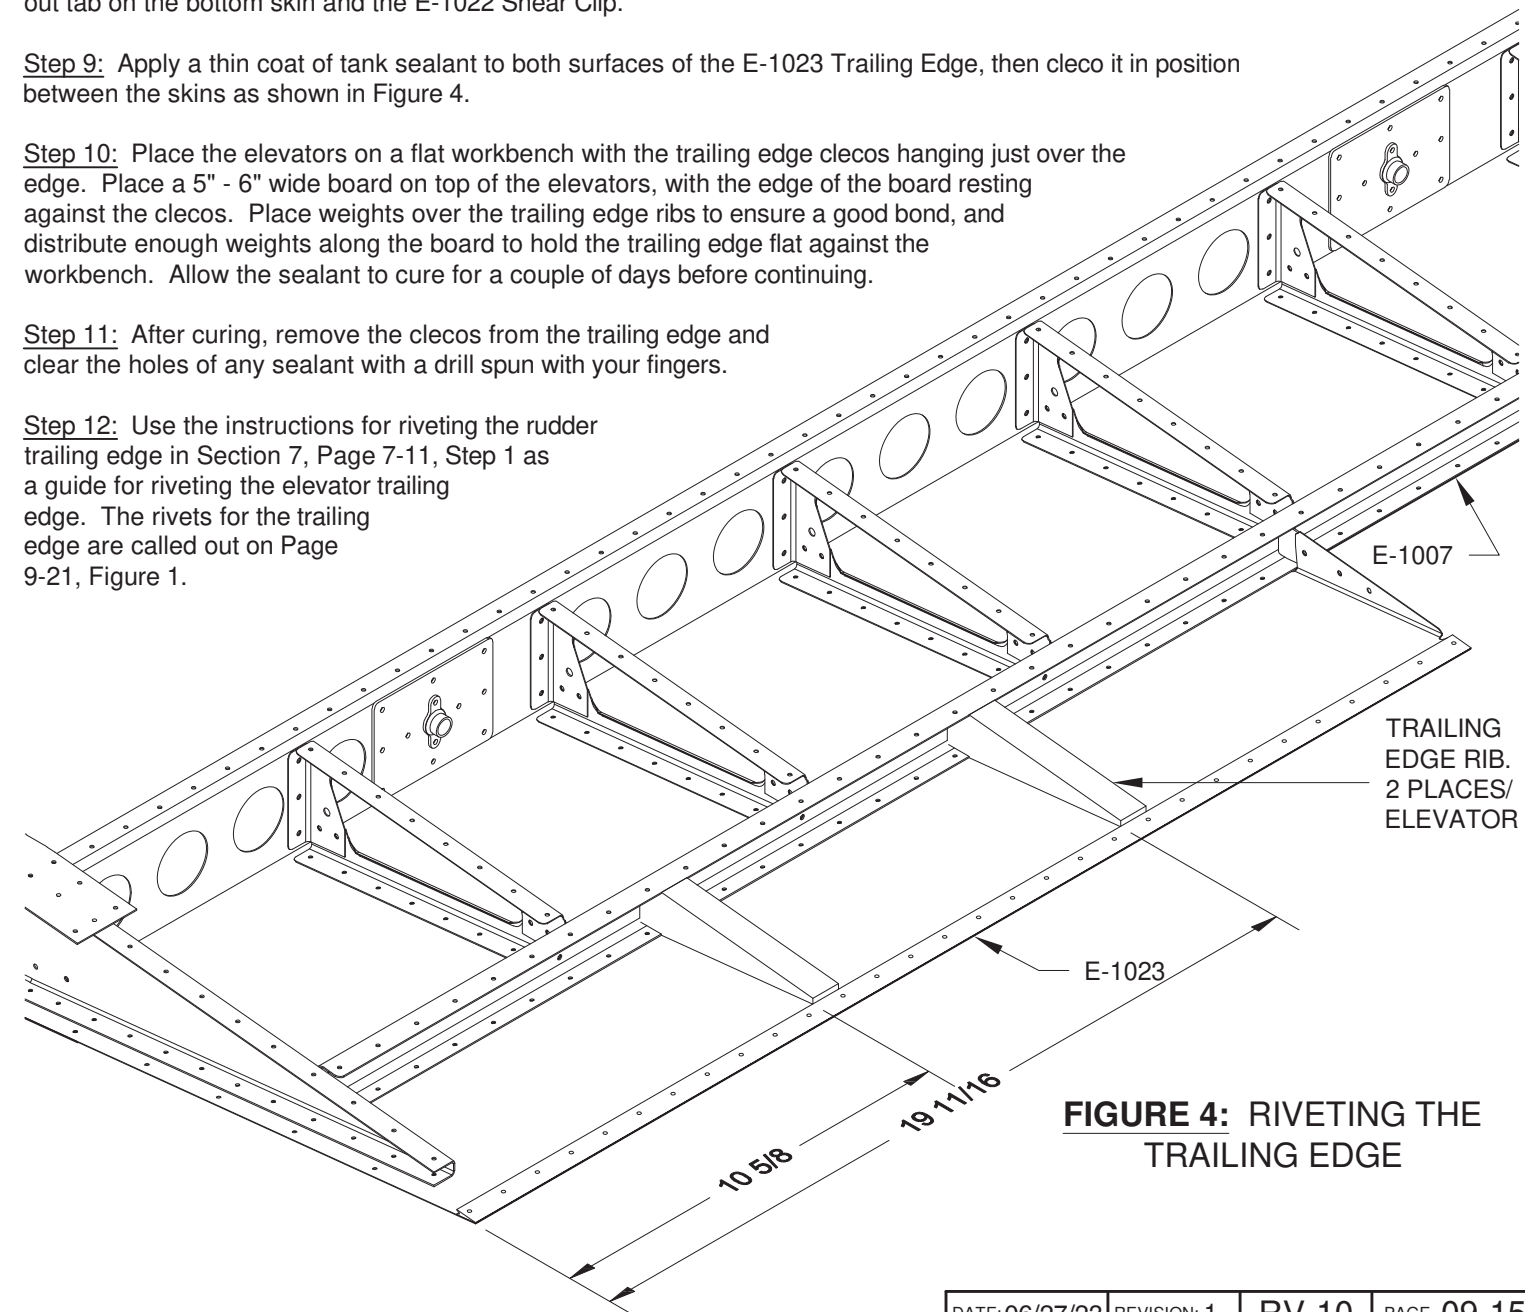

FIGURE 4: RIVETING THE TRAILING EDGE
Step 9: Apply a thin coat of tank sealant to both surfaces of the E-1023 Trailing Edge, then cleco it in position between the skins as shown in Figure 4.